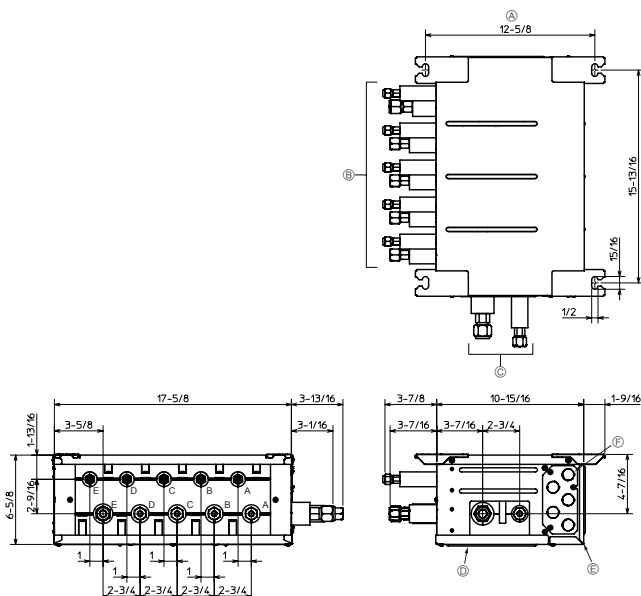

Fig. 4-2
■ PAC-MKA50BC (Fig.4-2)
- (1) Install the suspension bolts (procure locally) at the specified pitch (Fig. 4-2, 4-3).